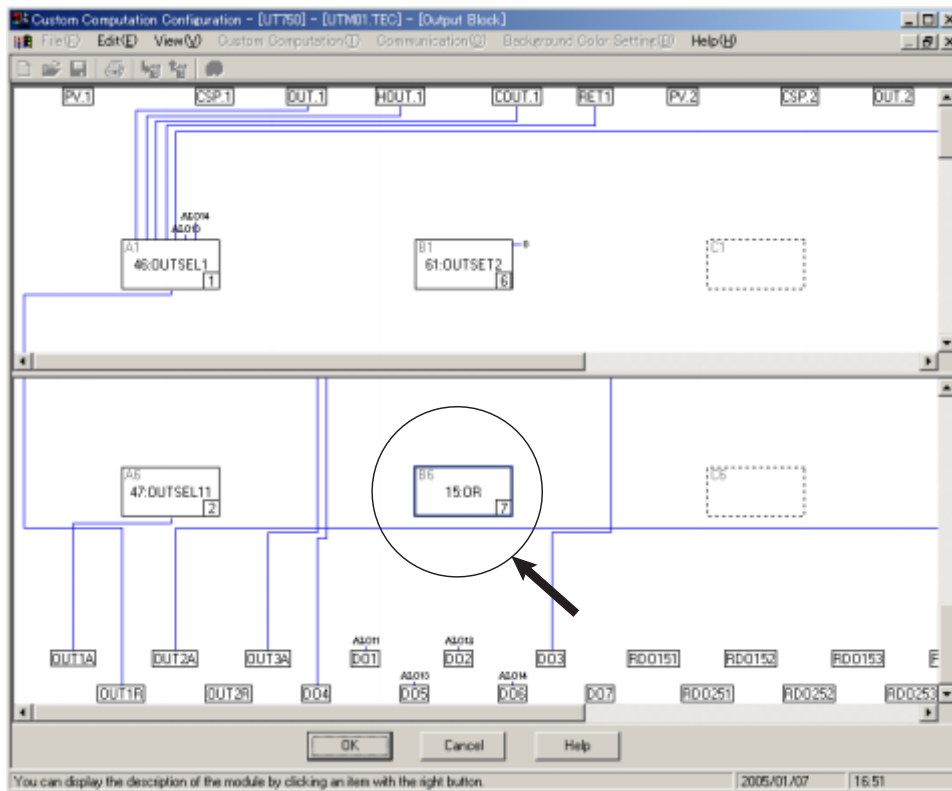

Figure 4.3.6 Example where an OR Module Is Registered as the Sixth-run Module
Figure 4.3.6 shows an example where the <15: OR> option in the <Logical Operation> index is registered.
- (1) In the [Output Block] dialog box, click the module whose inputs and parameters you want to configure. In the example shown in Figure 4.3.6, click the OR module.
- (2) From the tool menus, choose <Edit [E]>, then <Connection>.